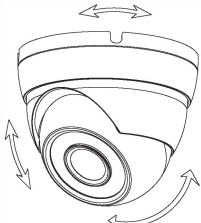

Figure 3-3
- Step 1** Find the mounting template sticker from the accessory pack and stick it to the mounting surface ①.
- Step 2** Drill screw holes (and the cable outlet hole if it needs to go through the mounting surface) on the mounting surface as indicated on the mounting template, then insert expansion bolts ② from the accessory pack in the screw holes.
- For model A, hold the pedestal ③ tightly and keep the device ⑤ upward, rotate the fixing ring ⑦ counterclockwise until you can detach it from above, and then take off the pedestal ③.
- For model B and model C, loosen the locking screw ⑧ with the supplied wrench ⑦ and take the pedestal ③ off.
- Step 4** Adjust the location of the pedestal ③ according to cable outlet requirement (top out or side out), then pull the cable out through mounting surface or the side wire tray. Align the screw holes on the pedestal ③ to those on the mounting surface, then put in and fasten the supplied self-tapping screws ④ to attach the device ⑤ to the mounting surface.
- For model A, put the fixing ring ⑦ back to hold the enclosure ⑥, leave some spaces enough for you to adjust the device ⑤. Aim the lens to the ideal angle (see Figure 3-3) and fasten the fixing ring ⑦.